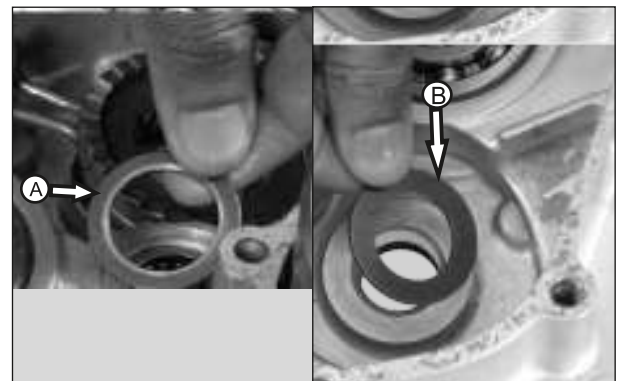

Fig. 3.87
- Take out plain washer counter shaft of 21X30X1.8 from the crankcase LH. (B) (Fig. 3.87)